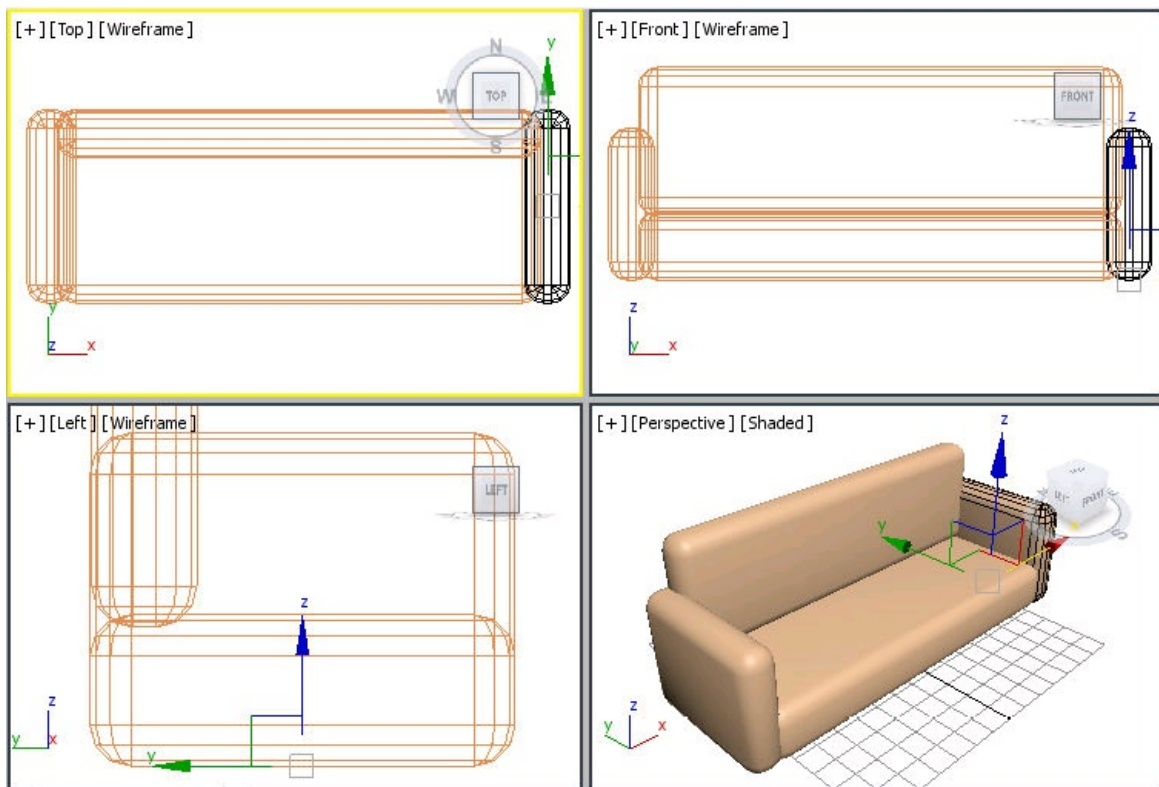

Figure 3-23 The right side geometry displayed in the viewports
3. In the **Clone Options** dialog box, make sure that the **Copy** radio button is selected and the value in the **Number of Copies** spinner is set to **1**. In the **Name** text box, enter **right side** and choose **OK**; *right side* of the couch is displayed, as shown in Figure 3-23.